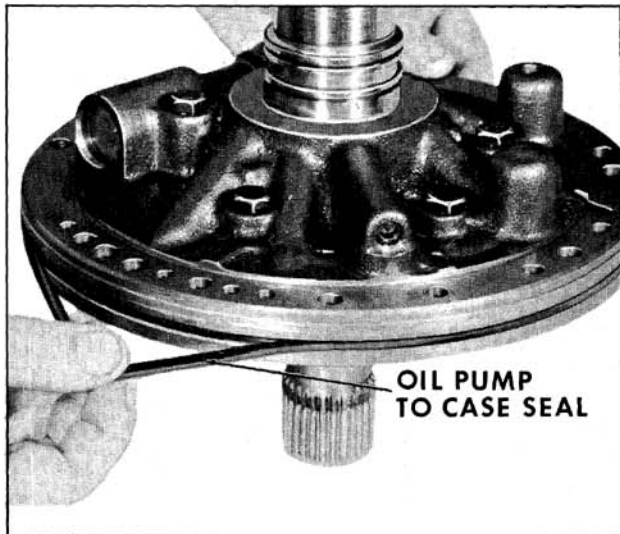

Fig. 6-510 Installing Oil Pump to Case Seal
3. Install oil pump to case seal. (Fig. 6-510)